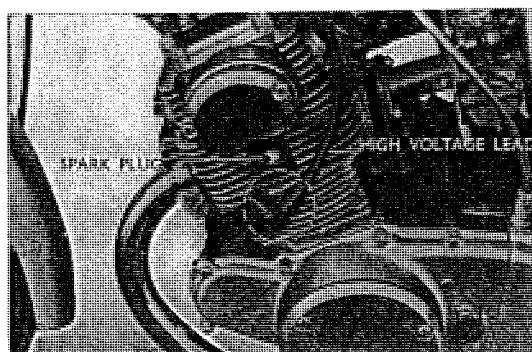

Fig. 5.12 Terminal unit covering
- c. The rubber cap attached to the connecting terminal avoids insulator induction objects. (Refer to Fig. 5.12)